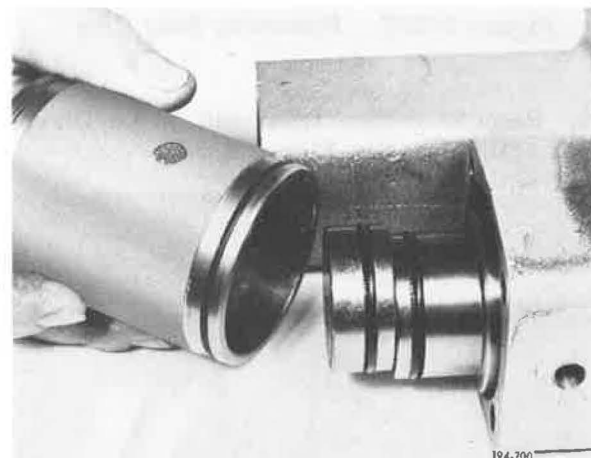

Figure 5-335. Removing Shift Cylinder
12. Remove Lo/Direct shift cylinder from air shift cover. See Figure 5-335.